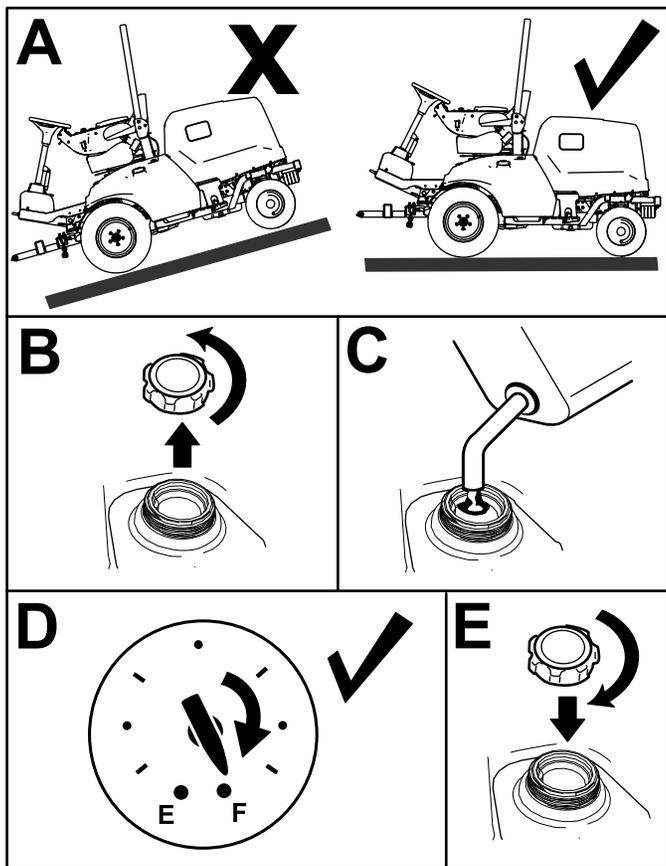

Figure 33
1. Park the machine on a level surface (Figure 33), engage the parking brake, shut off the engine, and remove the key